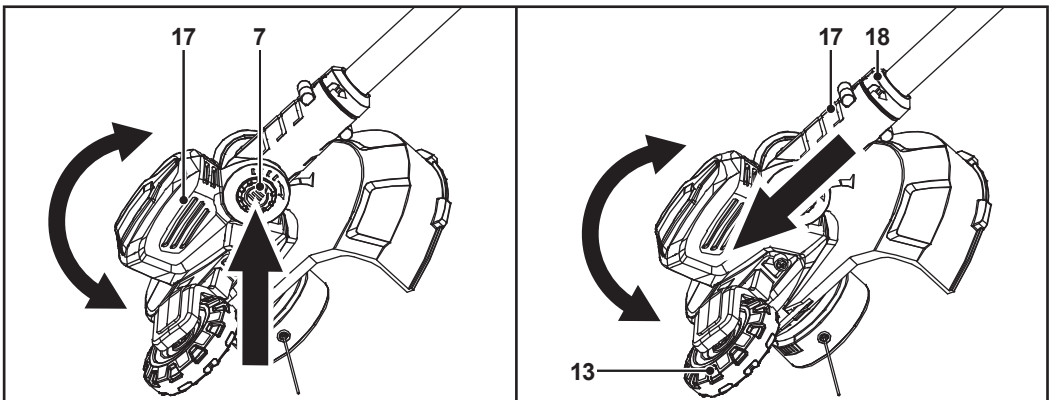

Fig. 6
**NOTE:** The tilt angle of the cutting head (17) can be set to 4 positions.
1. Press the cutting head button (7) (Fig. 6).
2. Adjust the cutting head (17) angle (Fig. 6).
3. Release the cutting head button (7).
4. Ensure that the cutting head (17) locks in place.
1. Pull the cutting head (17) approx. 1 cm out of the extension tube (18) (Fig. 6).
2. Rotate the cutting head (17) by 90° to the left or to the right (Fig. 6).
3. Release the cutting head (17).